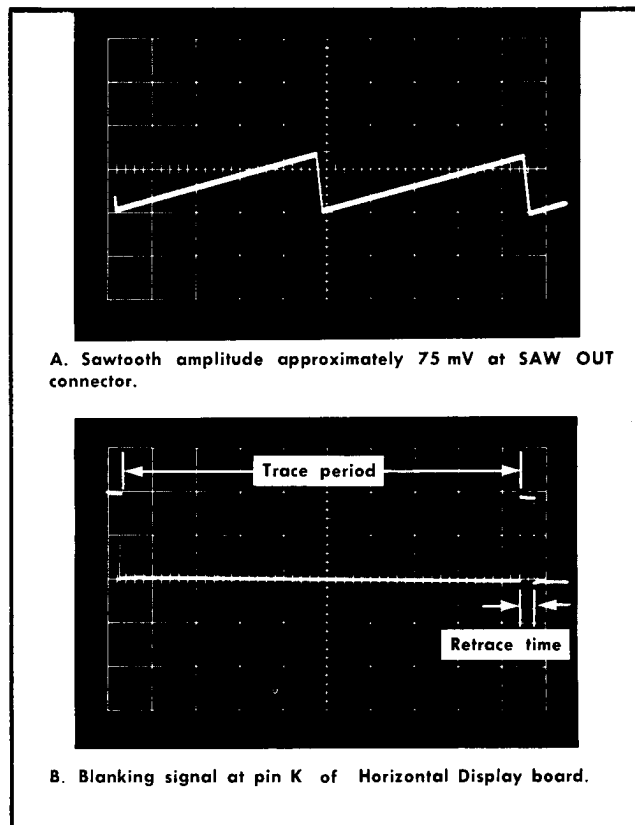

Fig. 6-16. Sawtooth waveform and blanking waveform.
- c. Check unblinking waveform. Amplitude should measure between 8.0 V and 9.0 V, typically 9.0 V (see Fig. 6-16).